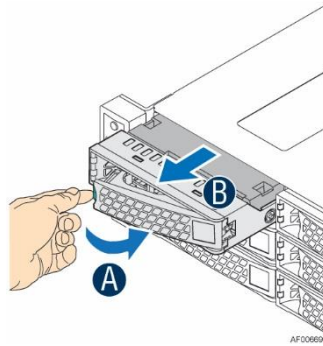

Figure 35. Installing a 3.5" HDD – removing the carrier
1. Remove the drive carrier from the chassis by pressing the green button and pulling open the lever (A) and pull the carrier out of the drive bay (B) as pictured in Figure 35.